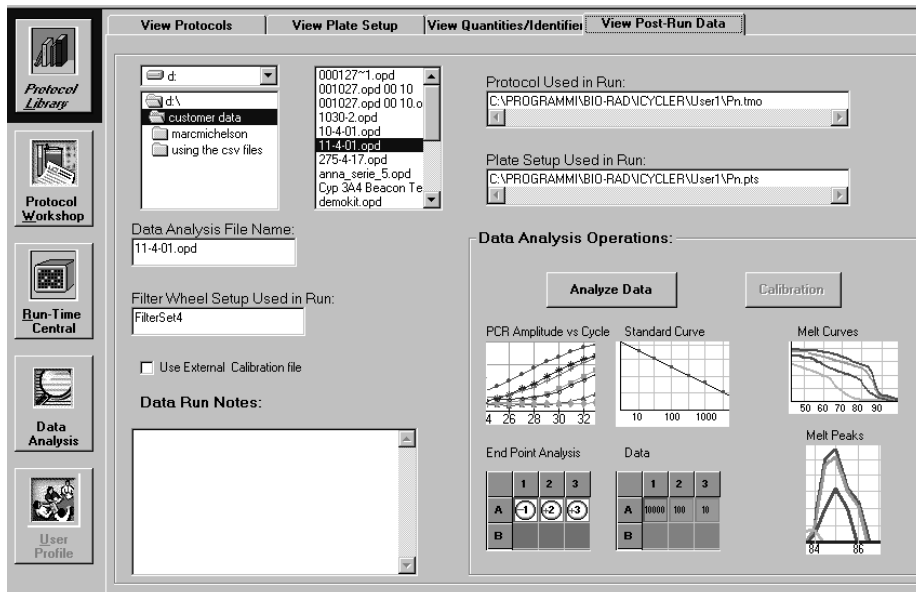

Fig. 4.6. Protocol Library / View Post-Run Data Window.
- **View Post-Run Data:** Opens stored data files (see Figure 4.6).
The View Post-Run Data window (Figure 4.6) may be used to open results of saved data files. To enter the View Post-Run Data window from another window in the Protocol Library, select the **View Post-Run Data** tab.